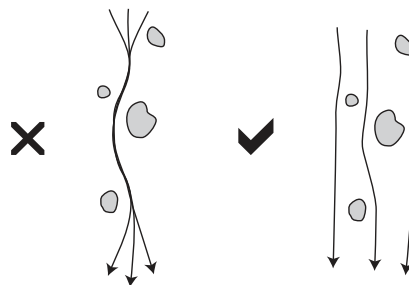

Figure 32. When avoiding obstacles in a block, avoid funneling traffic and keep skidding dispersed if possible.
- If utilizing dispersed skidding, avoid funneling traffic over the same ground (Figure 32). The majority of compaction occurs after two or three cycles, or less if soil moisture is near field capacity.